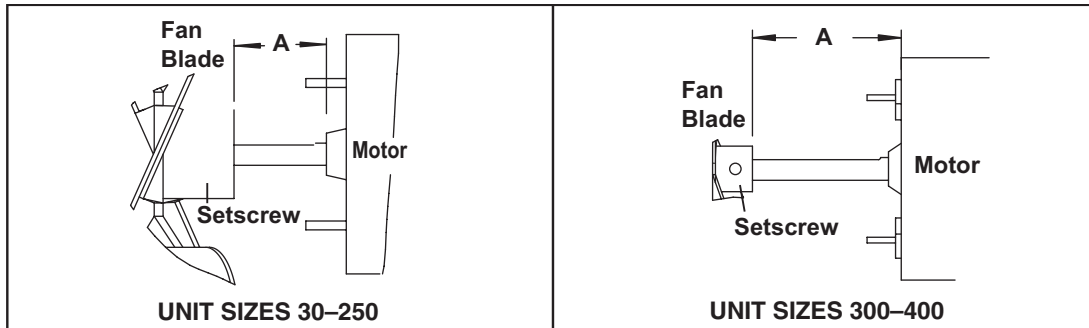

Figure 25. Fan Spacing
6. Ensure that fan blade is in proper position on shaft (see Figure 25) and that blades are properly spaced (refer to Table 24).
*See Figure 25.